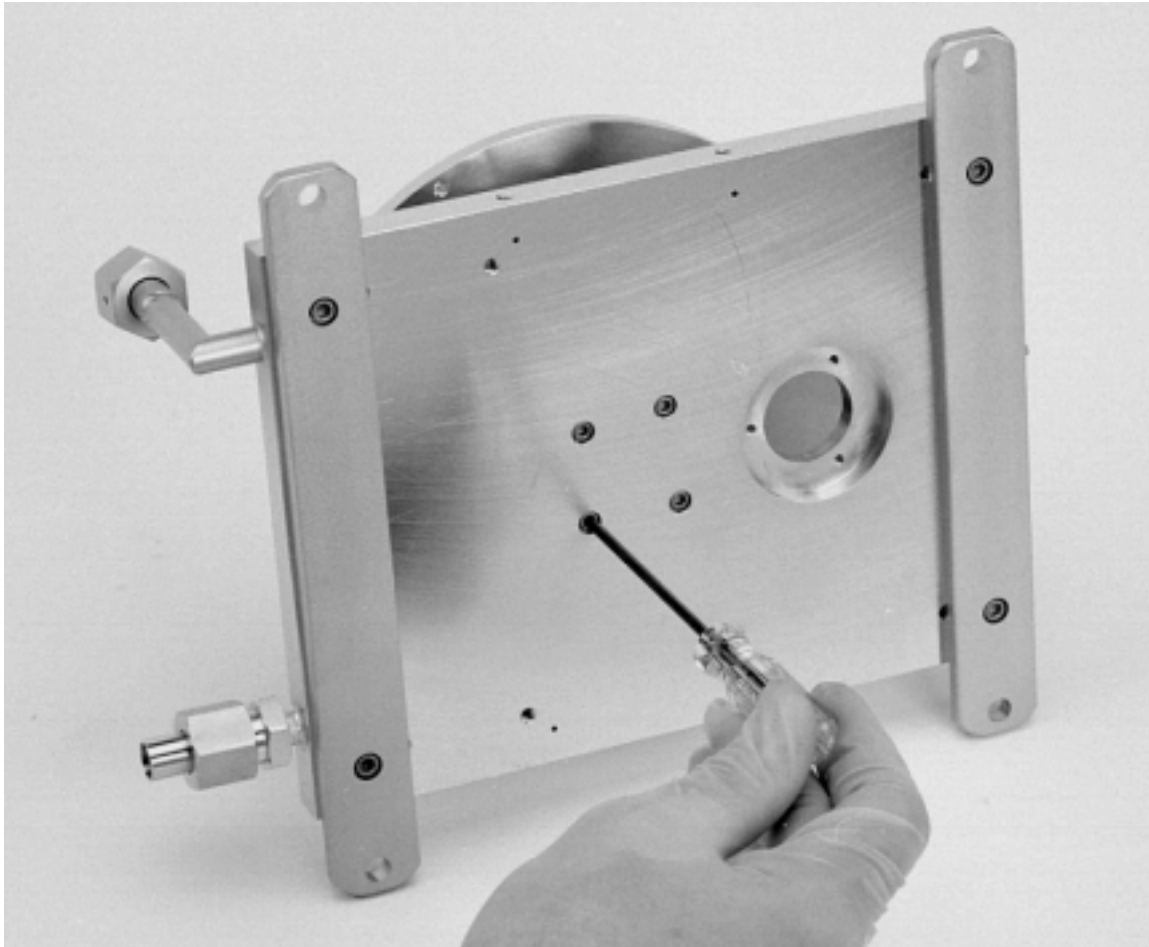

Figure 5-22. Detaching the pivot plate shaft from the base plate
Step 22: Holding the remainder of the source as shown in Figure 5-22, remove the four 5-32 1/2" screws that secure the pivot shaft to the base plate. Then you can remove the bearing housing assembly (which contains the pivot shaft) from the source.